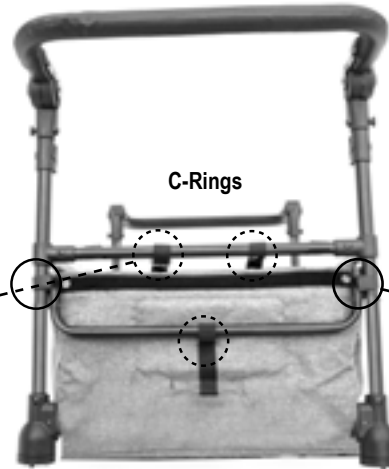

Fig. 1C
- Attaching C-ring straps: Locate the 7 C-rings (3 front, 3 rear, 1 under) on front, rear and underside of fabric liner (Fig. 1C, Fig. 1F).